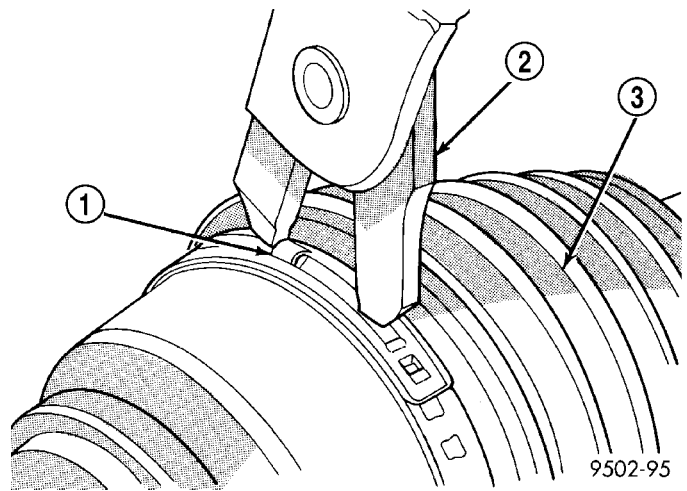

Fig. 24 Clamping Tool Installed on Sealing Boot Clamp
(1) Place prongs of clamp locking tool in the holes of the clamp (Fig. 24).